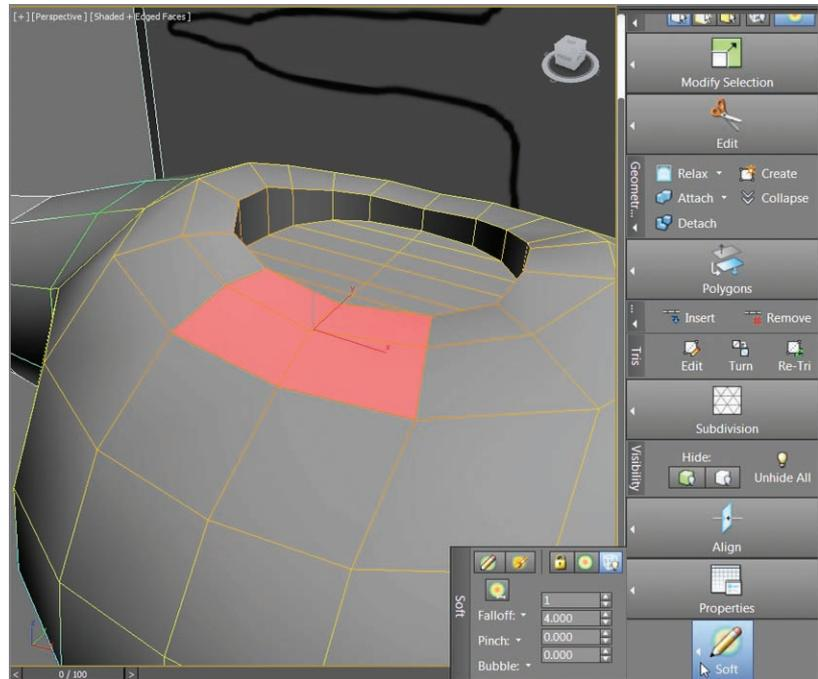

FIGURE 9.1 Soft-select the polygons at the front of the neck and move them down.
2. In the Soft panel, select the tab to reveal the soft parameters. Change the Falloff value to **4.000**, as shown in Figure 9.1.